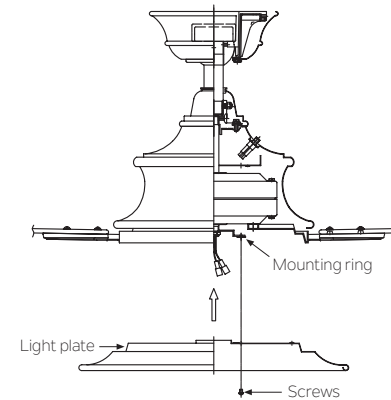

Fig. 17
**Step 1.** Loosen the two screws on the mounting ring attached to the motor shaft and “remove” and save the third screw. (Fig. 17)